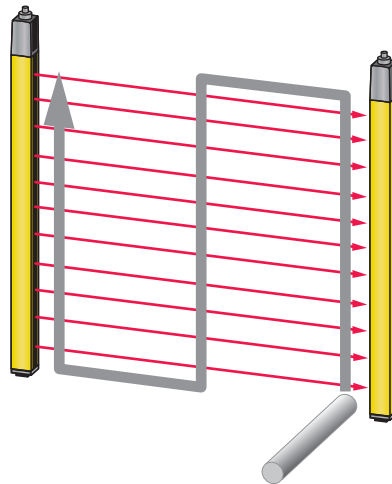

Figure 9.1: Checking the protective field function with test rod
✚ During operation, interrupt an active light beam with a test object provided for this purpose (see figure 9.1). Is the dangerous movement shut down immediately?
- ↪ Interrupt all light beams at different distances from the transmitter and receiver with the test rod from a position outside the danger zone (see figure 9.1) and ensure that the machine cannot be started with an interrupted light beam.